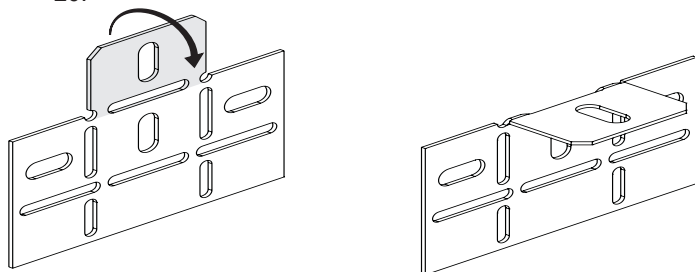

Figure 20
1. Prebend the brackets included with the kit as shown in Figure 20.